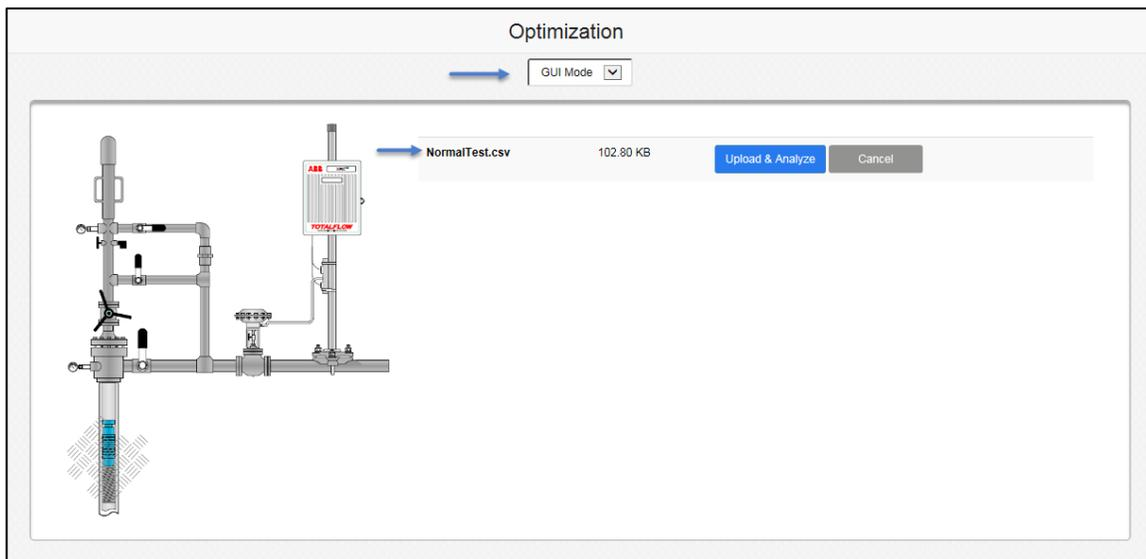

Figure 50: Starting optimization in GUI mode
- 3) Ensure Optimization is in **GUI Mode** (Figure 50).